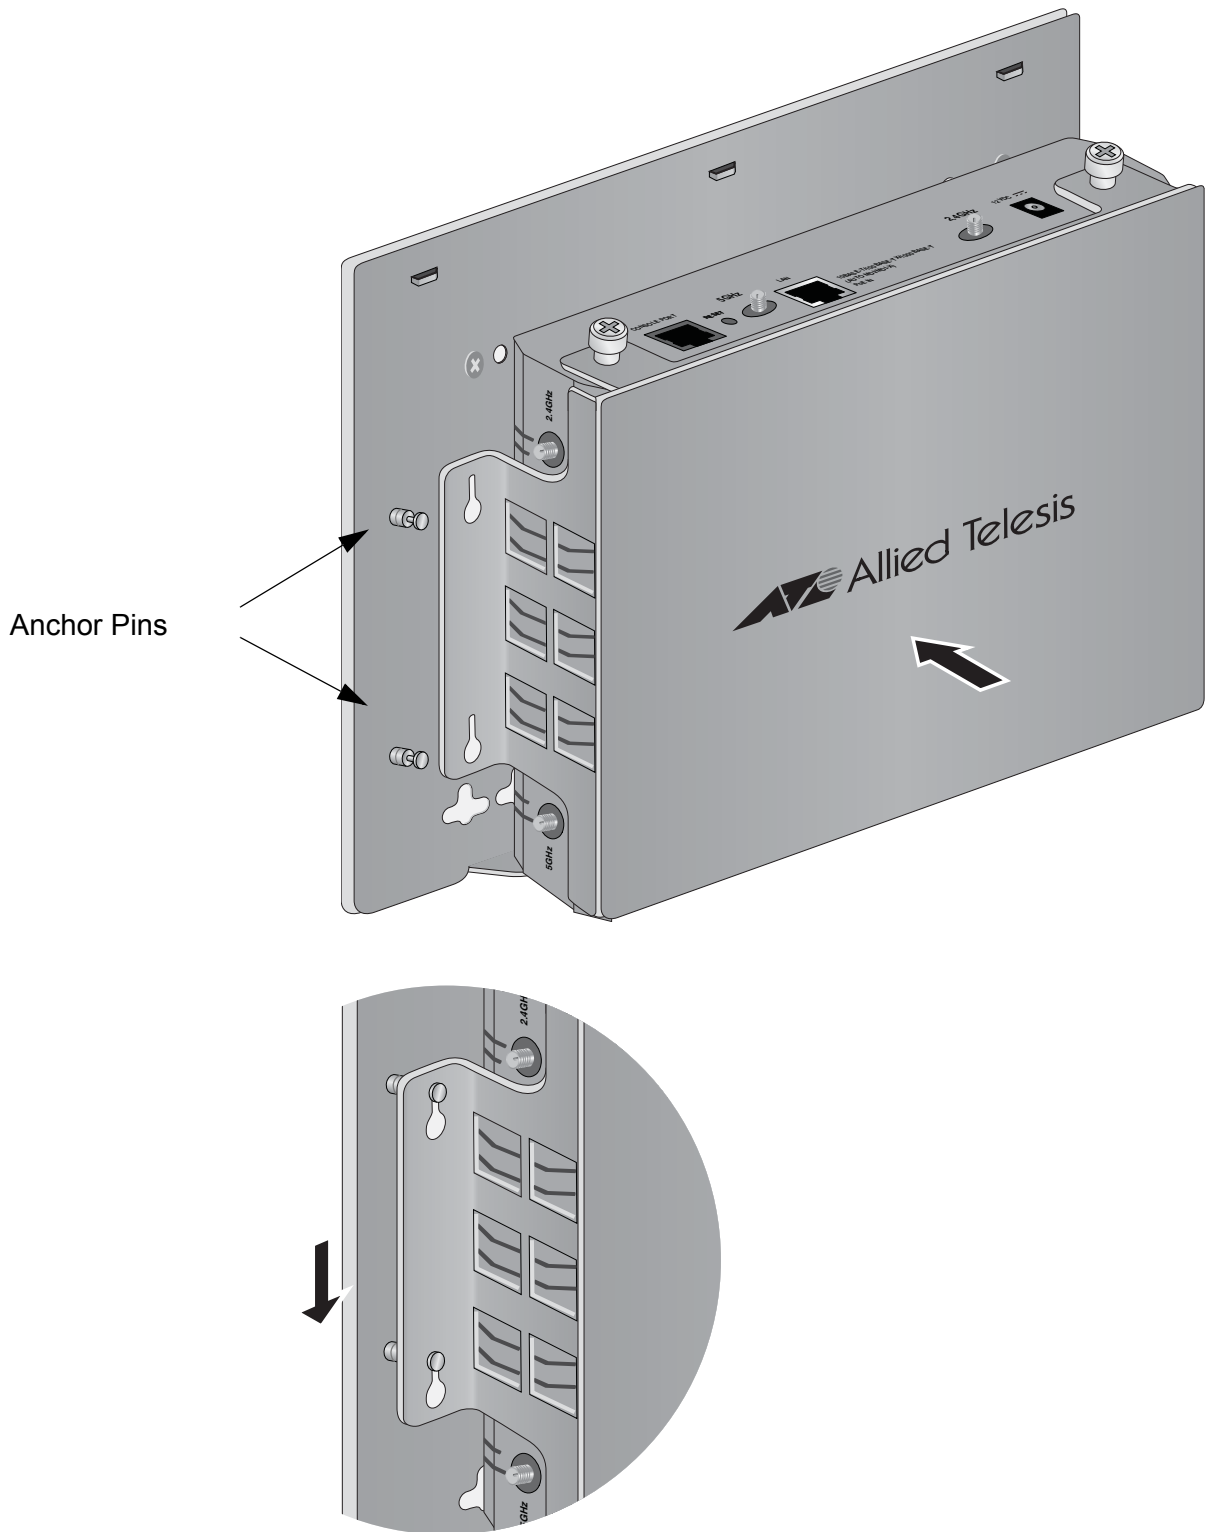

Figure 21. Attaching the Top Panel and Access Point to the Bottom Panel
4. Place the top panel and access point over the bottom panel on the wall or ceiling such that the two anchor pins on the bottom panel fit into the holes on the top panel. Then slide the top panel to lock the pins into the holes. Refer to Figure 21 on page 43.